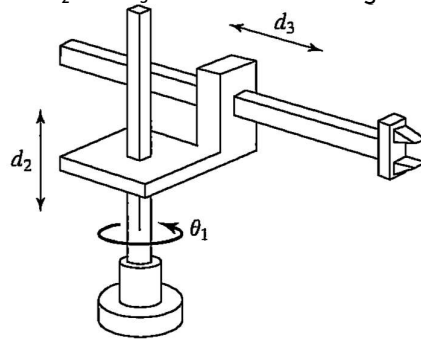

Fig. Q.4(b)
- (b) Derive inverse kinematics of the manipulator shown in Fig. Q.4(b). Note that the axes of prismatic throw d_2 and d_3 are not intersecting. [4]